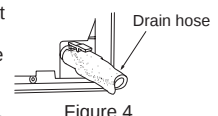
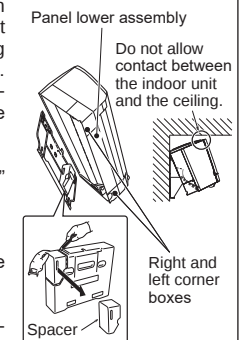

Figure 4
Figure 5
- Insert the drain hose fully into the drain pan at the rear right of the indoor unit. (Figure 4)
- Insert the drain hose into wall hole sleeve (C), and hook the upper part of indoor unit on installation plate (1). Then, move the indoor unit completely to the left in order to make placing the piping in the back space of the unit easier.
- Cut out the spacer from the packaging styro-foam and set it on the rib on the back of the indoor unit. (Figure 5)